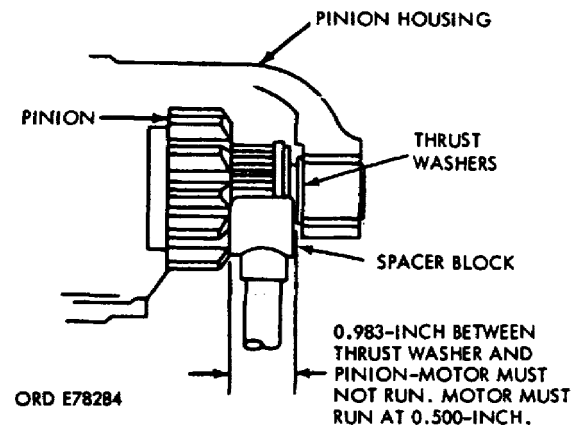

Figure 31. Pinion block test.
(1) This distance is checked with a series of spacer blocks or thrust washers and a continuity tester. Figure 31 shows the spacer block between the pinion and thrust washer.
(2) If continuity is greater than 0.500 inch, then the pinion clearance is adjusted to its minimum limit of 0.020 inch and the block test is performed again to make sure an open circuit exists.